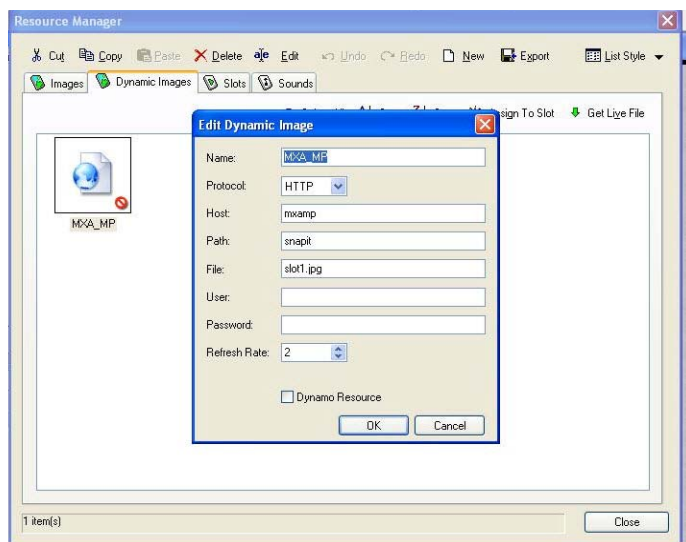

FIG. 9 Edit Dynamic Image window
3. In the *Edit Dynamic Image* window (FIG. 9), add a new resource. In the example.